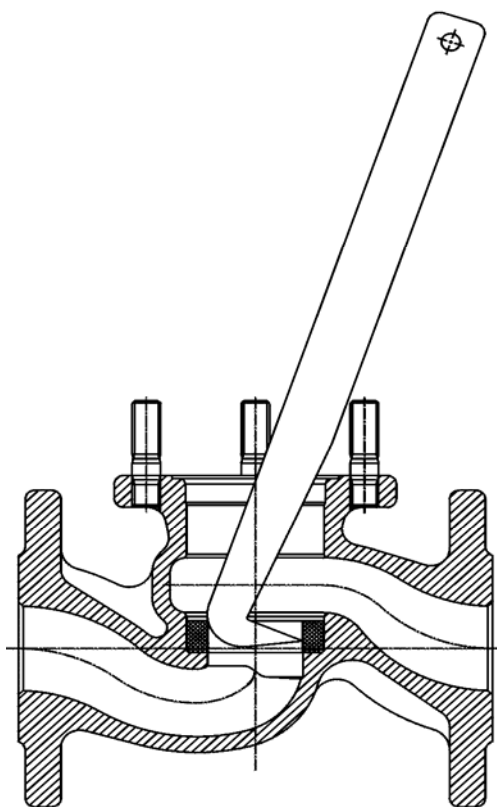

Fig.3
- *Remove bottom valve ring (Pos.9) with ring extractor hook Fig. 3*)*